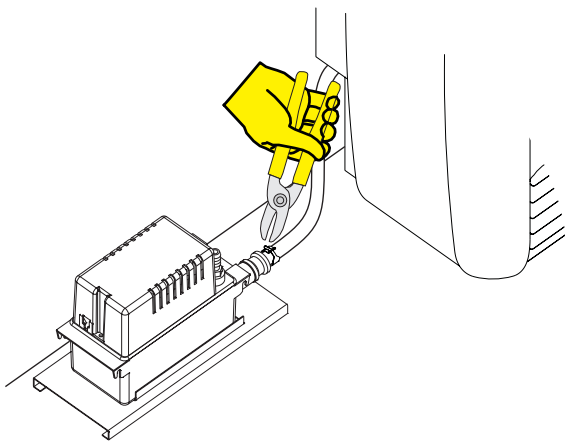

Figure 3
- Slide the wall furnace's drain hose over the barbed reducing fitting on the bottom of the pump housing. Make sure that there are no kinks in the drain line and that the line slopes down toward the pump. Use the pliers to slide the hose clamp down the hose over the connector. Make sure the clamp is still on the hose. **See Figure 3.**